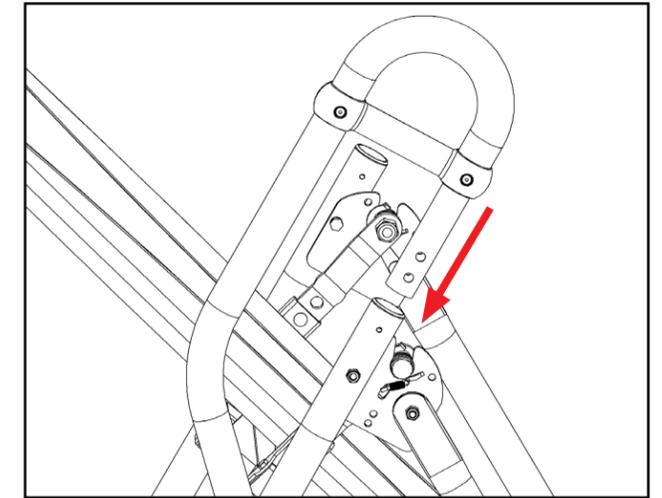

Figure 15
- Insert the Support Handles into the A-frame (Figure 15).